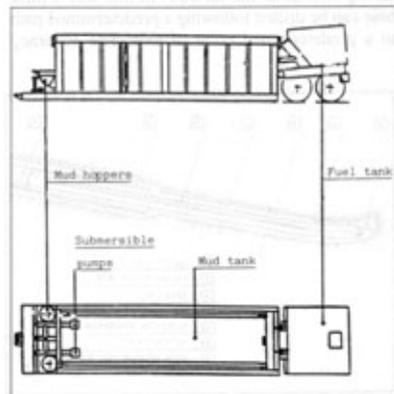

Figure 6. Mud mixing unit
- Mud tank/mixing unit, capacity 38m³. (See Figure 6).